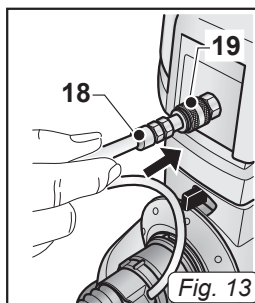

Fig. 13
- Connect the (18 Fig. 13) detergent delivery hose to the quick coupling (19 Fig.13); to release it push the quick coupling (19 Fig.13) inwards.